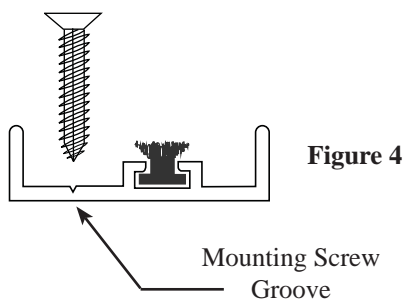
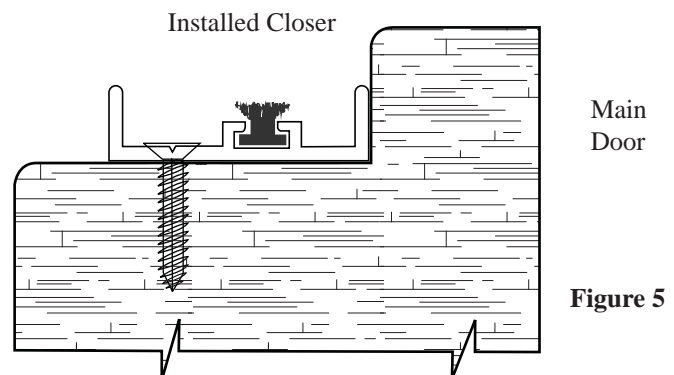

Figure 4
Figure 5
Drill two (2) 3/16" holes in the closer (#R5600), approximately 4" from each end, using the mounting screw groove (Figure 4). Note: Holes may be pre-drilled from the factory. Install Closer using #6 x 1" flat head screws provided, in the same position the hinge was installed, in the opposite jamb (Figure 5).